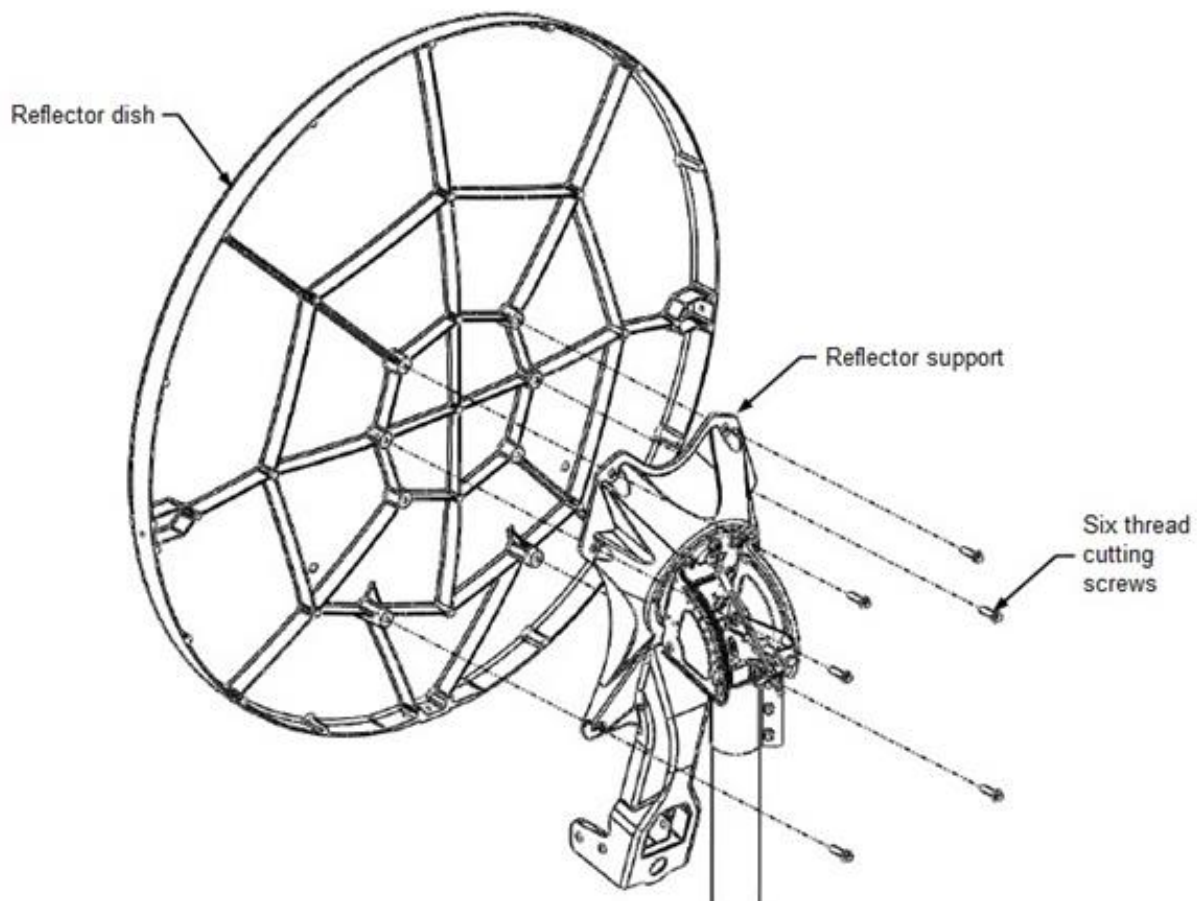

Figure 10: Attaching the antenna reflector
1. Line up the holes on the reflector with the holes on the reflector support, as shown in Figure 10.
2. Insert six thread-cutting screws ( $1\frac{1}{32}$ -14  $\times$  1.13 inch) into the holes in the reflector bracket and through the corresponding holes in the reflector, as shown in Figure 10.